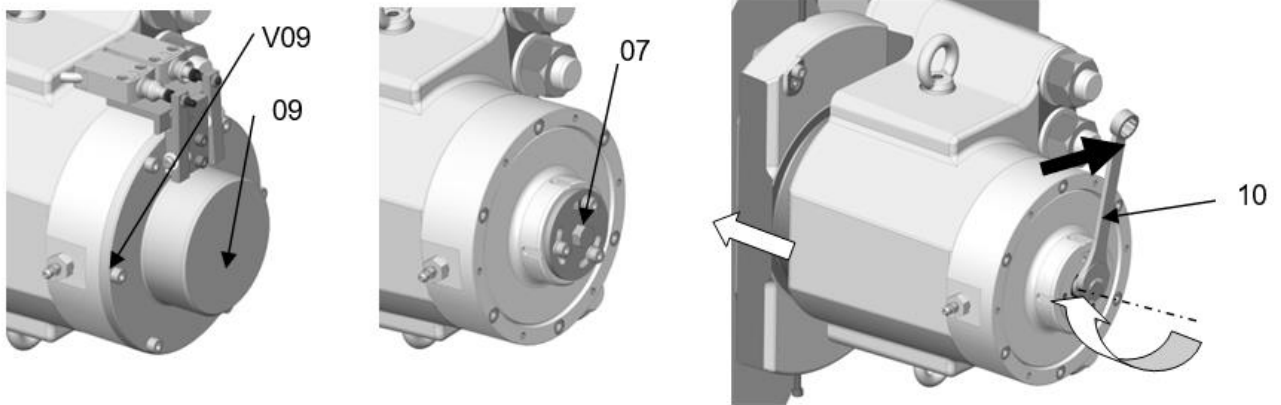

Fig. 5.2
3. Remove lid **09** using its 6 screws **V09** with a A/F wrench Fig. 5.2.
4. Remove the locking washer **07** Fig. 5.2 after releasing the screws.